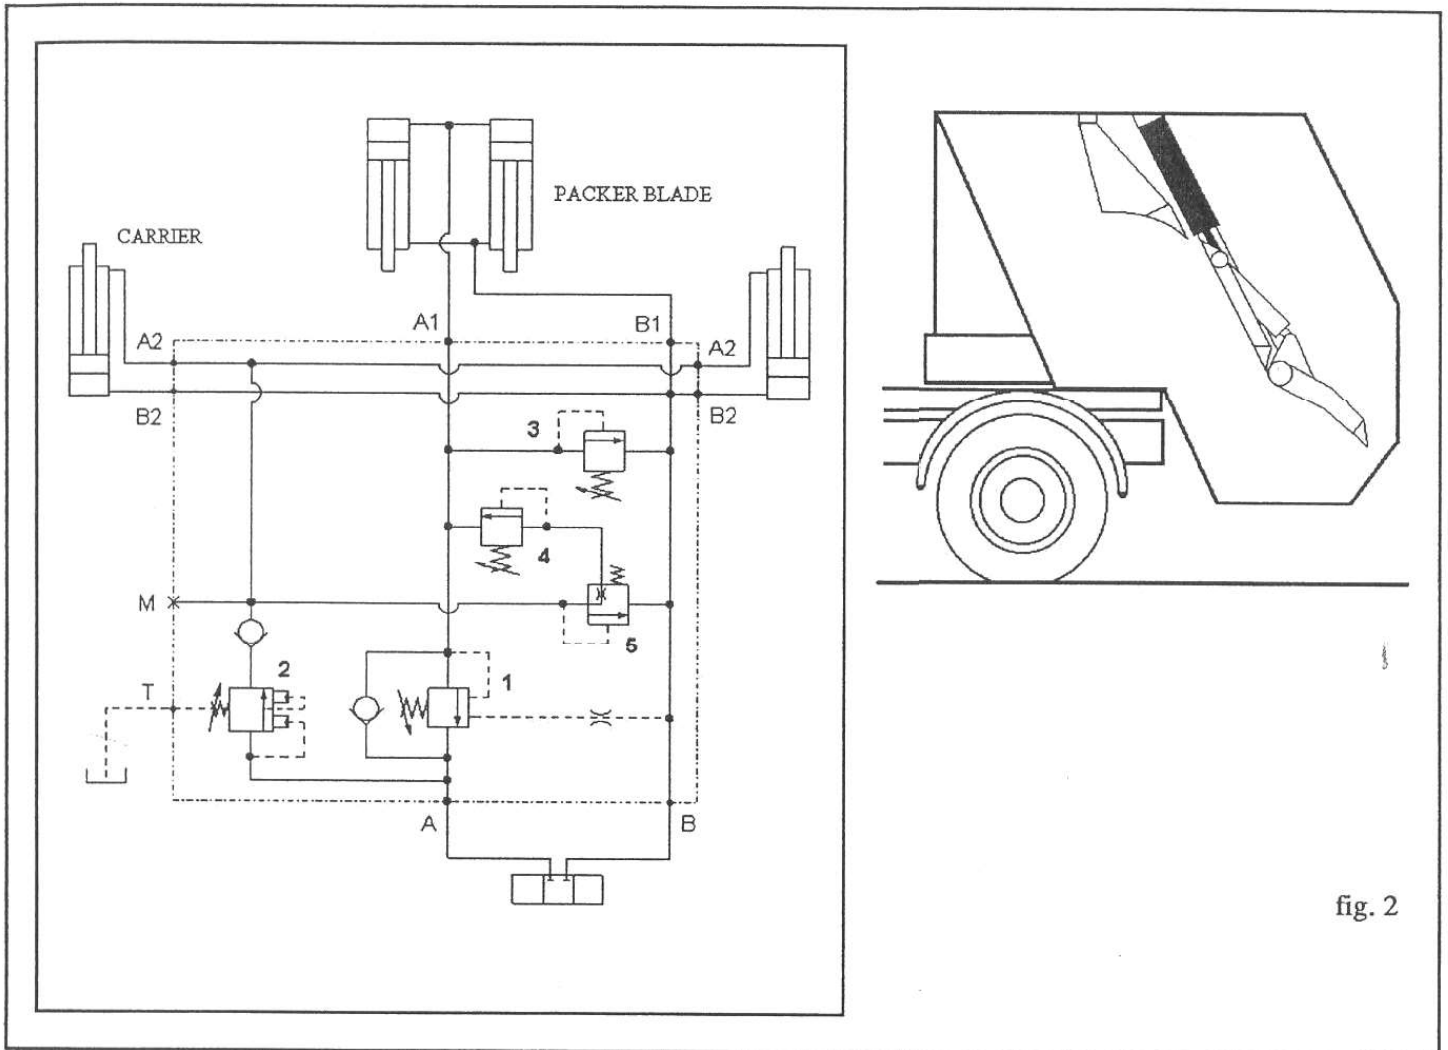

fig. 2
- Type B: it is studied to be fitted on refuse collectors where the packing is made by sending oil to the rod side of the cylinder. It provides oil regeneration during the lowering of the carrier in order to increase the speed (fig. 2).